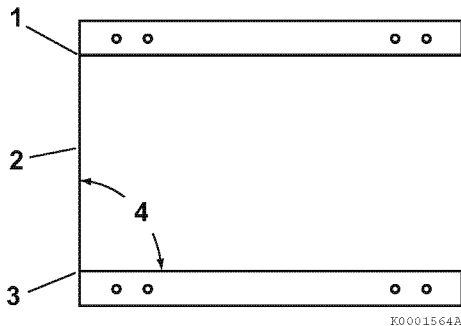

Figure 5-12
10. String a reference line (2, **Figure 5-12**) between points as shown (1 and 3, **Figure 5-12**).
12. A measure of 90° (4, **Figure 5-12**) indicates symmetry in the stringer system. Modify as needed.